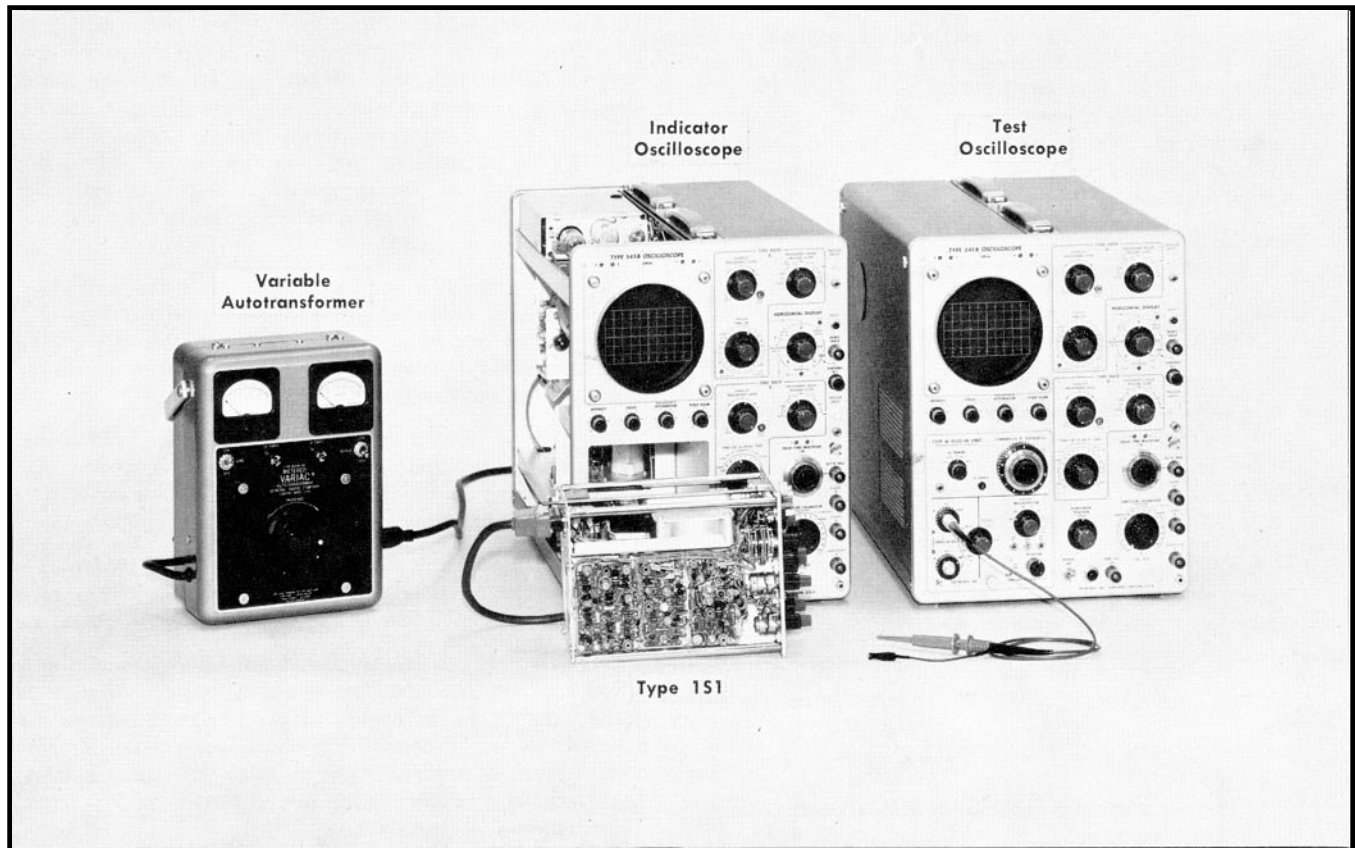

Fig. 5-3. initial test setup for steps 1 through 3.
4. Connect the interconnecting plug of the Type 1S1 to the indicator oscilloscope through the 30-inch flexible extension cable (see Fig. 5-3).
- Initial test equipment setup is shown in Fig. 5-3.